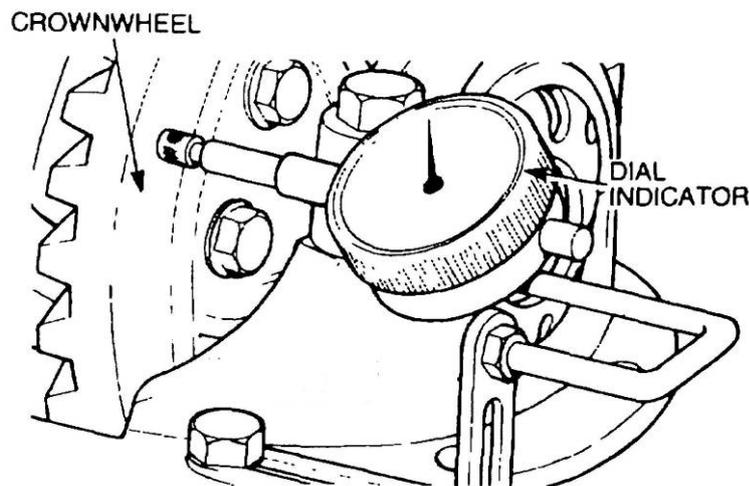

Figure 256 Checking the Crownwheel Run-out
- i.** Mount a dial indicator on the differential carrier flange and rotate the differential to measure the run-out (Figure 256) which should not exceed 0.10 mm (0.004 in). If the run-out is excessive, remove the crownwheel and inspect the mating faces for signs of dirt or burrs. Install the crownwheel and recheck the run-out.